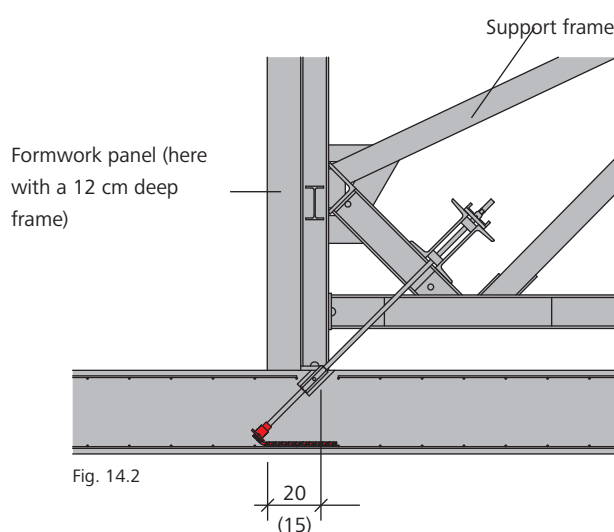
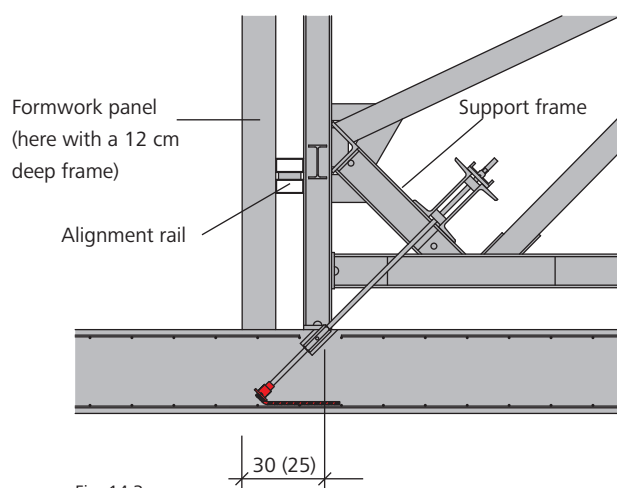

Fig. 14.2
Fig. 14.3
- 20 cm when using support frames STB 450 (Fig. 14.2). It is 30 cm when also using alignment rails (Fig. 14.3).